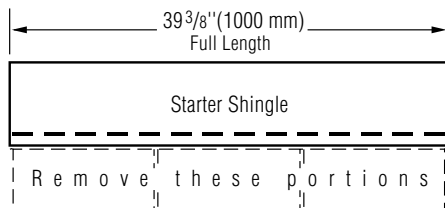

Figure 12-13: Make starter shingles by removing the lower tabs.
1. Use CertainTeed Starter™ (10" x 383/4") or a starter course consisting of the shingles from which the lower tabs have been removed (Figure 12-13). Remember, the sealant on starter courses should lay as close as possible to the eaves edge of the roof.
3. Continue with full-length starter-course shingles along the eaves. (Figure 12-13).
1. Use CertainTeed Starter™ (10" x  $38\frac{3}{4}$ ") or a starter course consisting of the shingles from which the lower tabs have been removed (Figure 12-13). Remember, the sealant on starter courses should lay as close as possible to the eaves edge of the roof.